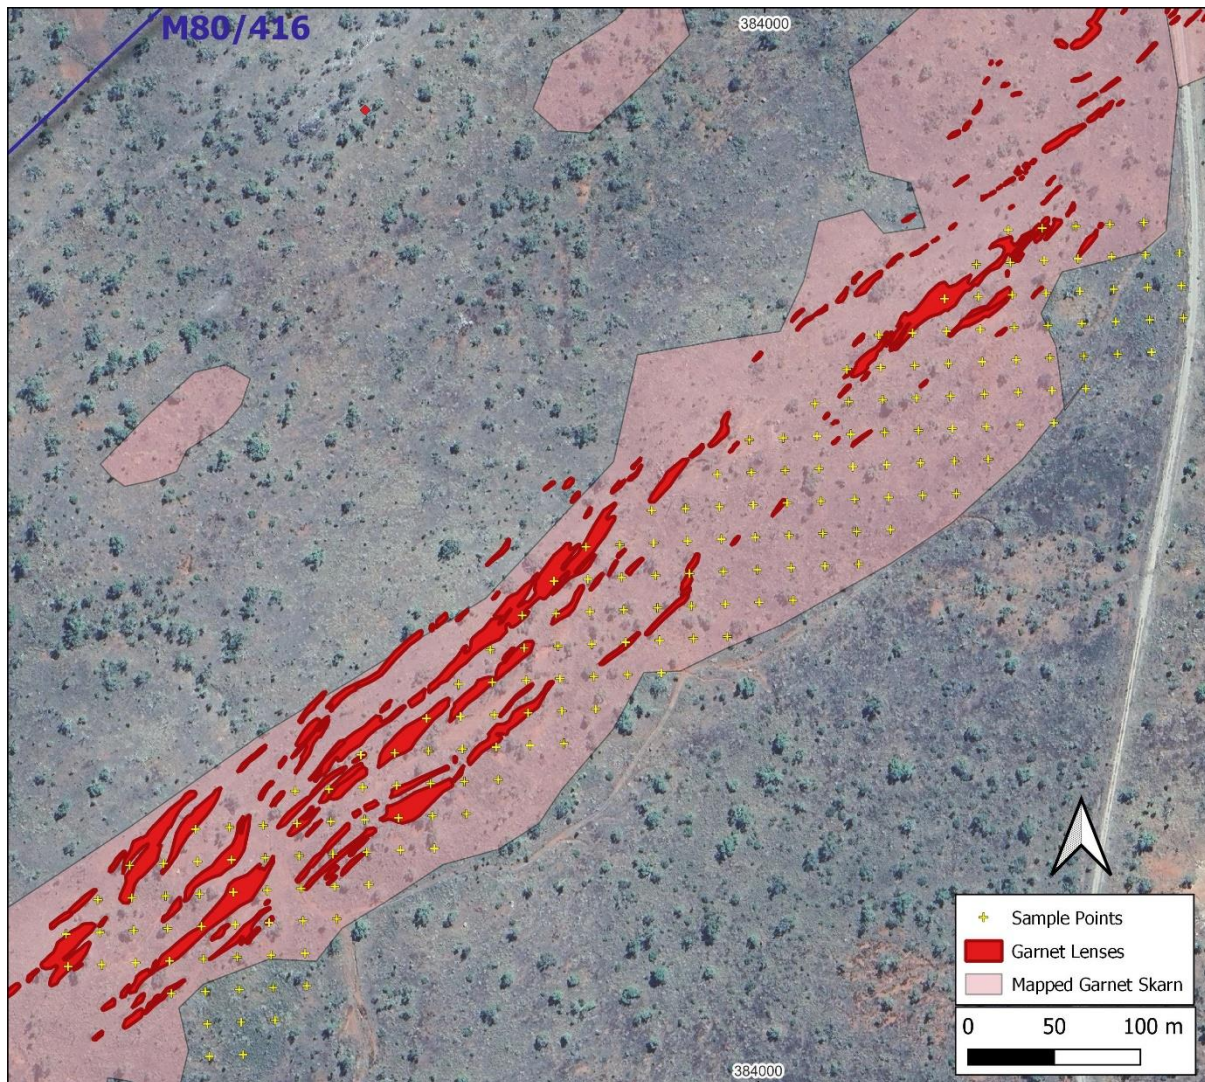

Figure 3: Map showing Location of Sample Points at M80/416
- The re-release now includes Figure 3, showing the map of sample collection points within Mining Lease M80/416.